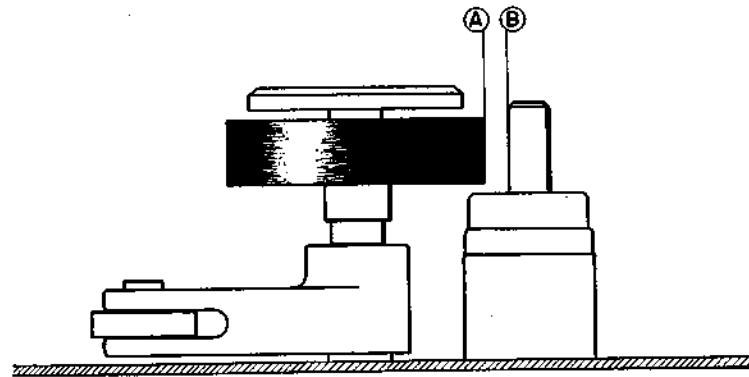

Fig. 9
Confirm the following prior to pinch wheel pressure measurement: (See Fig. 9)
The part of the pinch wheel over which the tape passes is parallel with the capstan shaft. (represented by **A** and **B** in Fig. 9)
2) In case **A** and **B** in Fig. 9 is not parallel, check for the following.